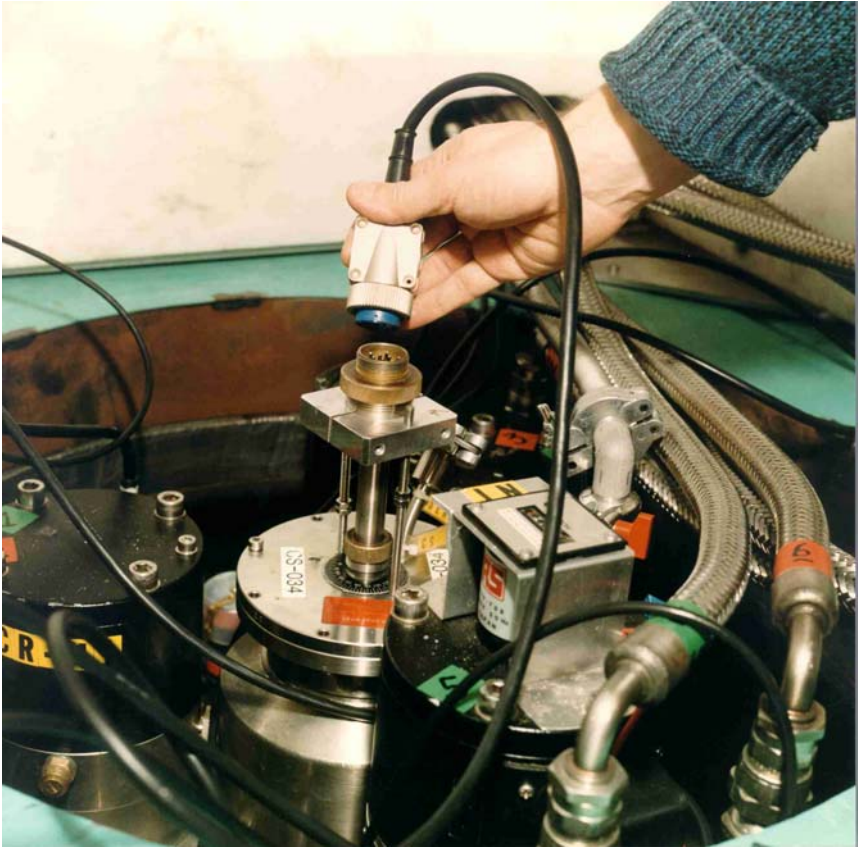

Figure 2.11: The thermometer connection on the CCR.
12. Remove the thermometer connection by unscrewing the upper “silver” knurled nut., *Figure 2.11*. **DO NOT UNSCREW THE LOWER BRASS NUT.**